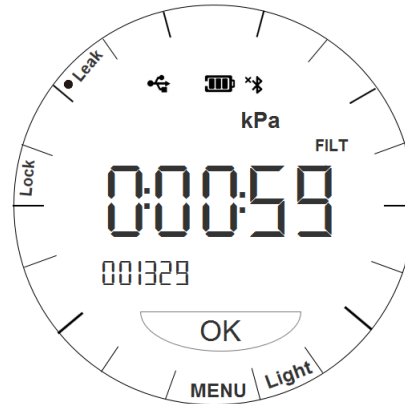

Figure7 Pressure leak test operation interface
2.6.2 In the pressure leak test operation interface, a black dot appears in front of the Leak menu, the main display area displays the countdown, and the sub display area displays the real-time pressure value, as shown in Figure 7.